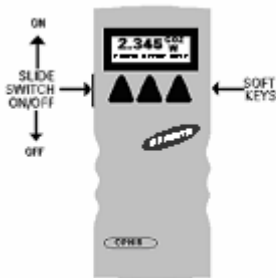

Figure 4.
The Orion is equipped with "soft keys". That is, the functions of the keys change as indicated by the legend above each key. (See Figure 4).
1. Push up the slide switch on the left side of the **Orion** display. (See Figure 4)
1. Switch the Orion TH on by means of the switch on the left side. (See Figure 4). The Orion TH will enter the mode of operation last saved with the "configure" operation. For basic operation, you need only set up the parameters for the type of measurement you wish and the Orion TH will be ready to perform that type of measurement each time it is switched on. The normal default mode is the bargraph autoranging power measurement screen.